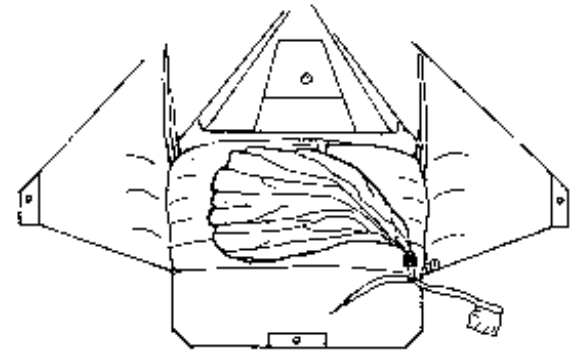

Figure 2-24
Step 28 Loosely fold the pilot chute and lay it across the bag as shown in *Figure 2-24*. **IMPORTANT!!! THE HANDLE AND PIN MUST EXIT THE CONTAINER AT THE LOWER RIGHT SIDE.**